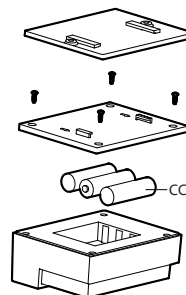

Figure 2
1. To install the batteries (CC) remove 4 small screws on back of the light with a small screwdriver. (Figure 2)